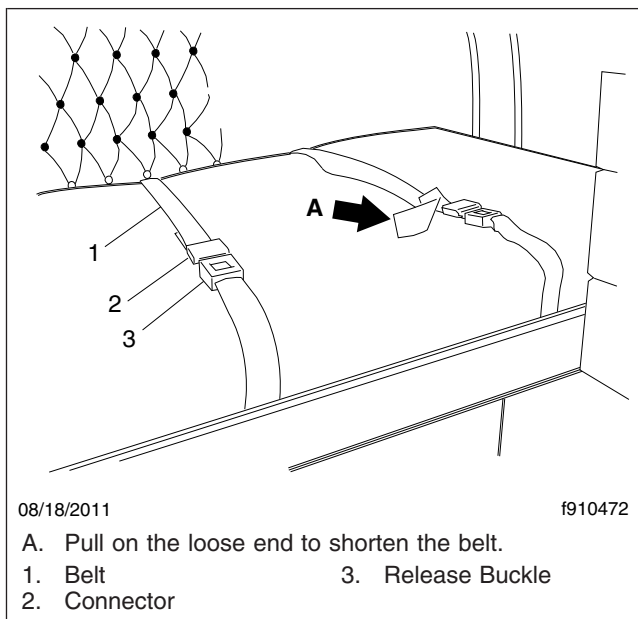

Fig. 7.13, Bunk Restraint Adjustment
3. After the belt is connected, shorten it by pulling on the loose end until the belt is snug, but comfortable. Be sure the belts are not twisted. See Fig. 7.13.